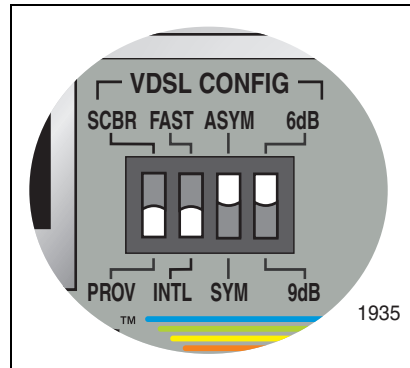

Figure 13. Configuring AT-MC606 Ethernet Extender for Provider Mode
3. Configure the right VDSL CONFIG switch (SCBR/PROV) to the SCBR position as shown in Figure 13.
1. Configure the right VDSL CONFIG switch (SCBR/PROV) to the SCBR position as shown in Figure 13.
1. Configure the right VDSL CONFIG switch (SCBR/PROV) to the SCBR position as shown in Figure 13 on page 39.